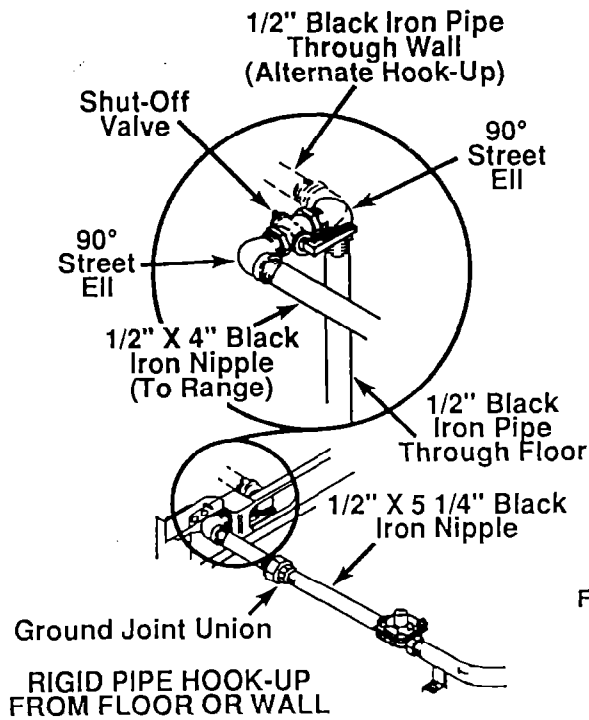

Fig. 11
- See Figures 11 & 12 for rigid and flexible pipe hookups.
- To prevent gas leaks, put a pipe joint compound that is resistant to the action of L.P. Gas, on all male (outside) threads except the ground joint union (See Fig. 11.)